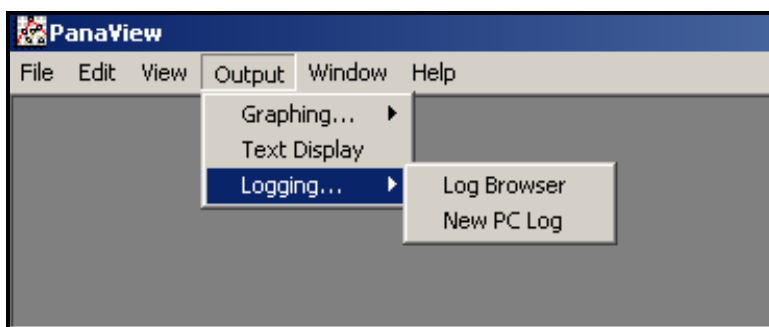

Figure 75: Selections in the Logging Option
1. Open the “*Output*” menu (see Figure 56 on page 74), and click on the “*Logging*” option. The window shown in Figure 75 opens.